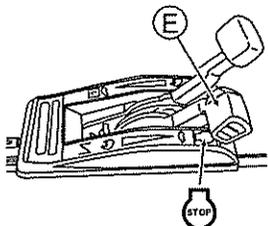

Fig. 20.
- 6 To interrupt mowing work halfway or finish it, return Drive clutch lever (B) and Blade lever (C), and then set Throttle lever (E) to "STOP" to stop the engine. (See Fig. 20.)